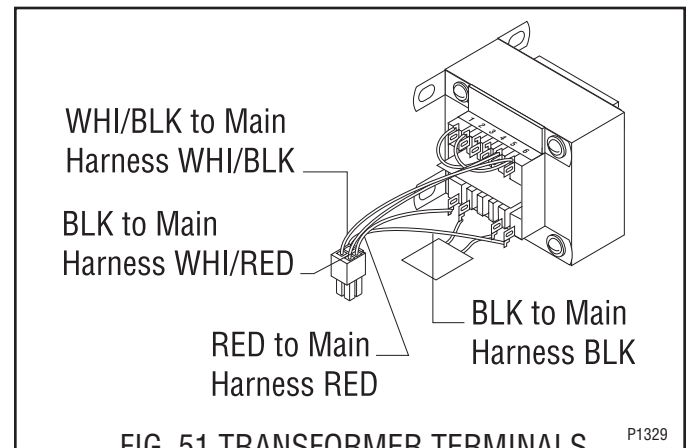

FIG. 51 TRANSFORMER TERMINALS
8. Refer to Fig. 51 and reconnect the wires.